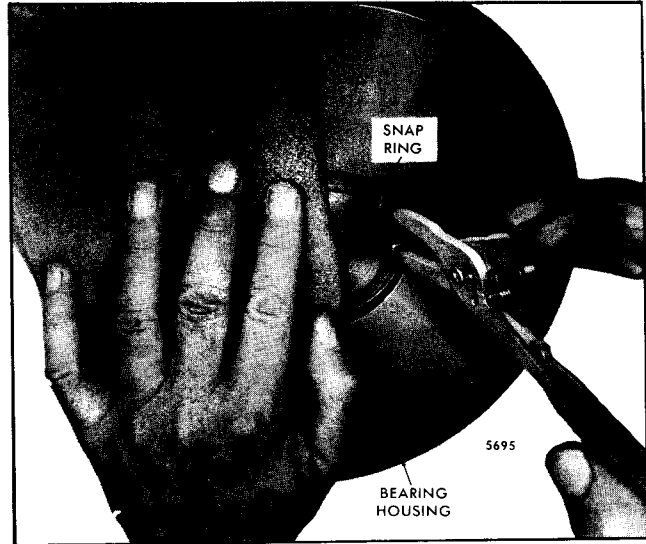

Fig. 7 - Removing External Snap Ring from Bearing Housing
7. Remove the external snap ring from the compressor end of the bearing housing (Fig. 7). Use medium size internal snap ring pliers and restrain the ring with a shop cloth to prevent injury, in the event the ring goes astray.
CAUTION: To prevent eye or facial injury, use a rag to snub the ring should it slip from the pliers during compression (Fig. 7).